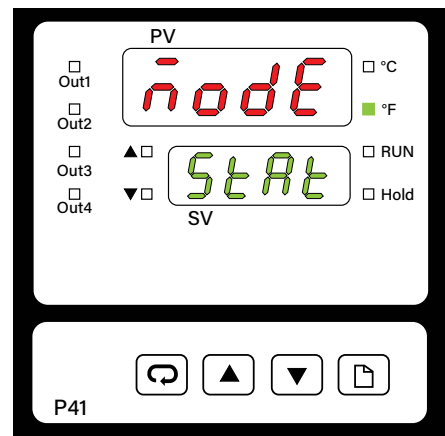

Figure 20
1. Press the  PAGE key until the upper display reads "mode" (*mode*). **(See Figure 20).**
2. Press the  UP or  DOWN keys to select "Stat" (*Stat*) in the lower display. **(See Figure 20).**
6. To exit the manual mode, press ▲▼ (UP & DOWN keys) together at the same time. The controller will now return to the STAT (*STAT*) mode. (See Figure 20).